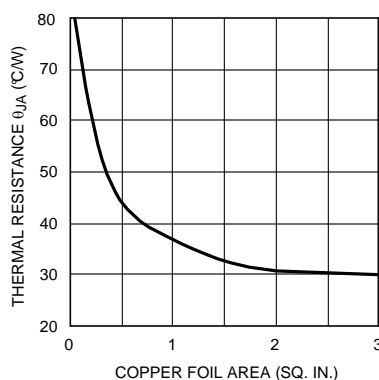

Figure 54. Thermal Resistance (typ) for 7-L DDPAK Package Mounted on 1 oz. (0.036 mm) PC Board Foil
5. Choose a copper area that will ensure the specified $T_{J(MAX)}$ for the calculated θ_{JA} . θ_{JA} as a function of copper area in square inches is shown in Figure 54.
4. Finally, using this value for θ_{JA} choose the minimum value of copper area from Figure 54.
Examining Figure 54, we see that we cannot attain this low of a thermal resistance for one layer of 1 oz copper. It will be necessary to derate the part by decreasing either the ambient temperature or the power dissipation. Other solutions are to use two layers of 1 oz foil, or use 2 oz copper (see Table 1), or to provide forced air flow. One should allow about an extra 15% heat sinking capability for safety margin.